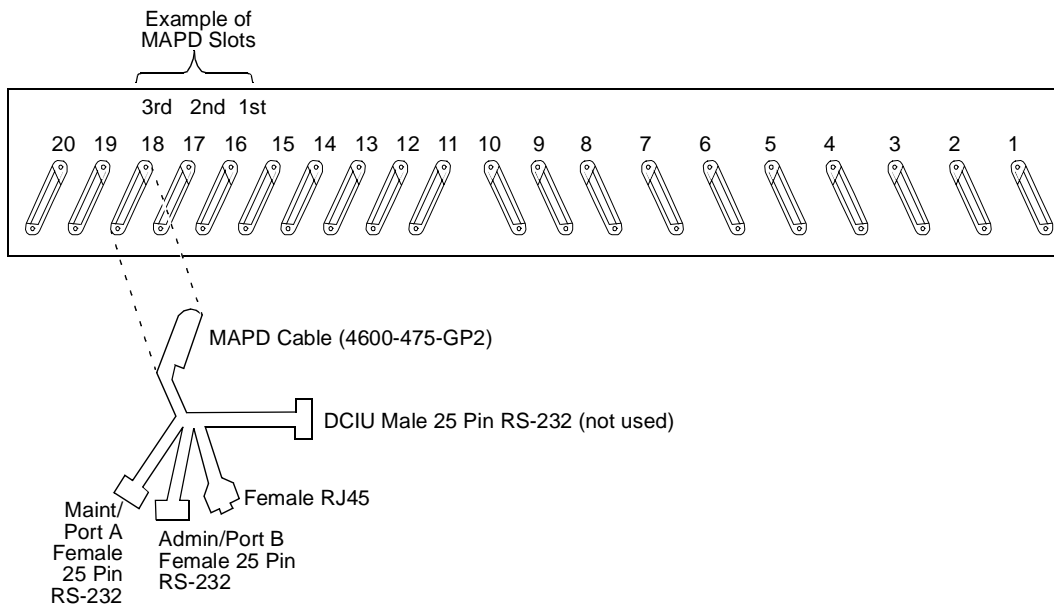
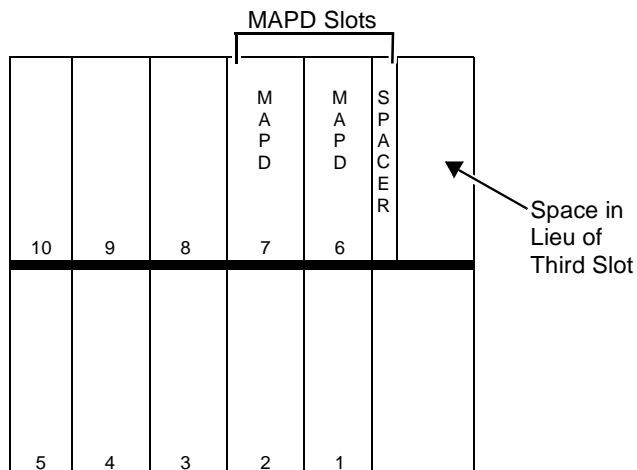

Figure 2-4. Connecting the Adapter Cable, Rear-Panel View of DEFINITY ECS system
Figure 2-5. Rear-Panel View of MAPD in DEFINITY ProLogix
The slots are numbered from left to right on the front panel of the switch cabinet, and from right to left on the rear panel as shown in Figure 2-4 for DEFINITY system, "Connecting the Adapter Cable, Rear-Panel View of DEFINITY ECS system," and Figure 2-5 for ProLogix "Rear-Panel View of MAPD in DEFINITY ProLogix." The three port slots are occupied by the MAPD system assembly as follows:
2. Referring back to Figure 2-4, "Connecting the Adapter Cable, Rear-Panel View of DEFINITY ECS system," and Figure 2-5, "Rear-Panel View of MAPD in ProLogix," the instructions that follow, connect the MAPD system assembly adapter cable to the port connector on the back of the switch.